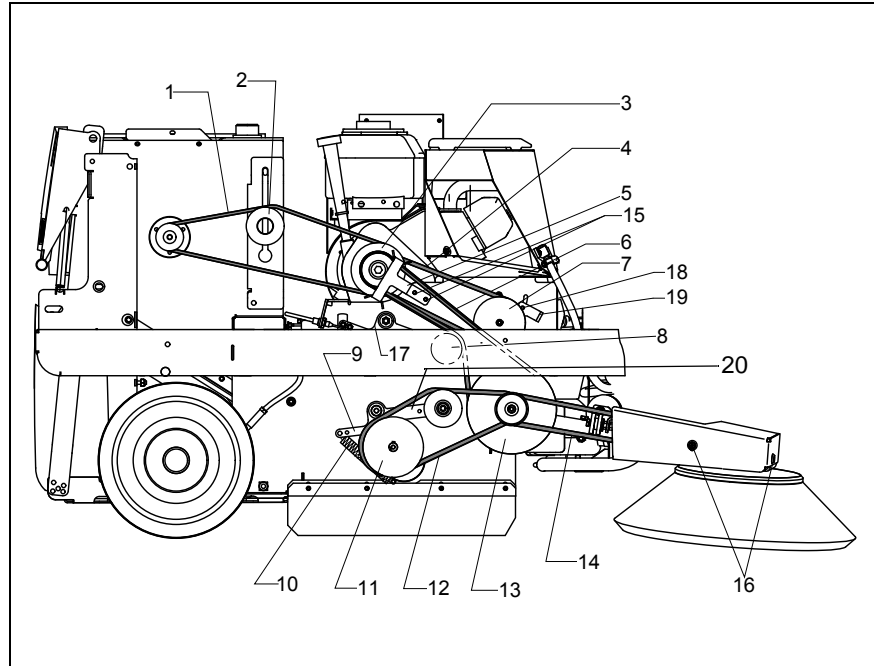

Fig.24 V-belt drive
- Detent tensioning spring (Fig. 24/10) by left hand while taking the V-belt off the tensioning roller with right hand
- Remove V-belt (Fig. 24/12)
- Loosen screws (Fig. 24/16) at the cover plate and remove
- Push side brushes in direction of the machine to detent V-belt (Fig. 24/14)
- Remove V-belt (Fig. 24/14)
- Loosen hexagonal nuts (Fig. 24/15) and remove together with belt guide (Fig. 24/5)
- Use tensioning roller lever (Fig. 24/17) to detent V-belt (Fig. 24/6) and remove from V-belt pulley (Fig. 24/3)
- Loosen tensioning roller (Fig. 24/2) to detent V-belt (Fig. 24/1) and remove
(Fig. 24/4) then tension of V-
belt (Fig. 24/2).
- Loosen fillister head screw (Fig. 24/18)
- Detent V-belt (Fig. 24/4) by lever (Fig. 24/19) and remove